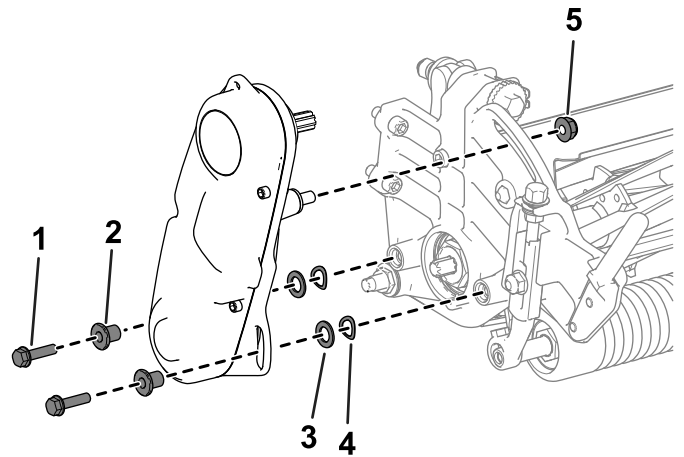

Figure 40
2. Remove the hardware that secures the reel-drive assembly to the side plate (Figure 40).
3. Remove the reel-drive assembly, flat washers, spring washers, and spacers from the side plate (Figure 40).